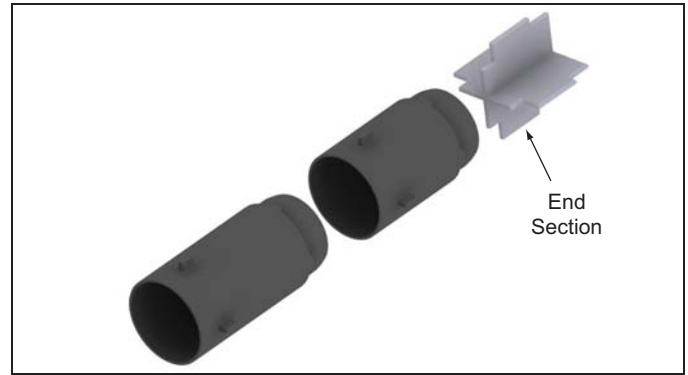

Figure 3.9.
4. Install inner ceramic sections. Refer to Table 3.1 for the appropriate quantities of short (185 mm) and long (235 mm) inner tube sections. Starting with the end section, add the inner tube sections one into the other and push them to the end of the outer tube. Make sure the inner tube sections are fully inserted in the outer tube. If they are not fully inserted the burner will not operate properly and may become damaged. See Figure 3.9.
1. With the outer tube horizontally oriented, install inner ceramic sections. Refer to Table 3.1 for the appropriate quantities of short (185 mm) and long (235 mm) inner tube sections. Starting with the end section, add the inner tube sections one into the other and push them to the end of the outer tube. Make sure the inner tube sections are bottomed in the outer tube. If they are not fully inserted the burner will not operate properly and may become damaged. See Figure 3.9.